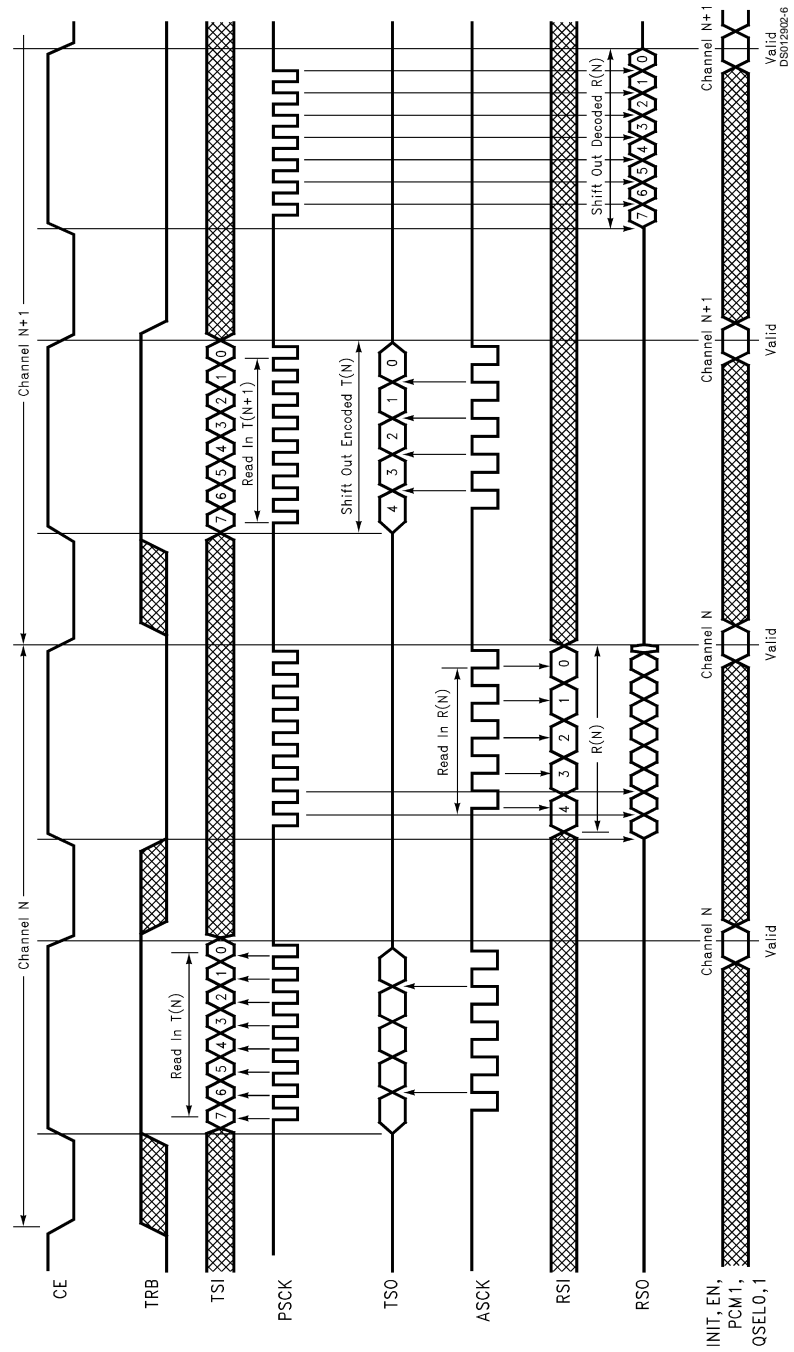
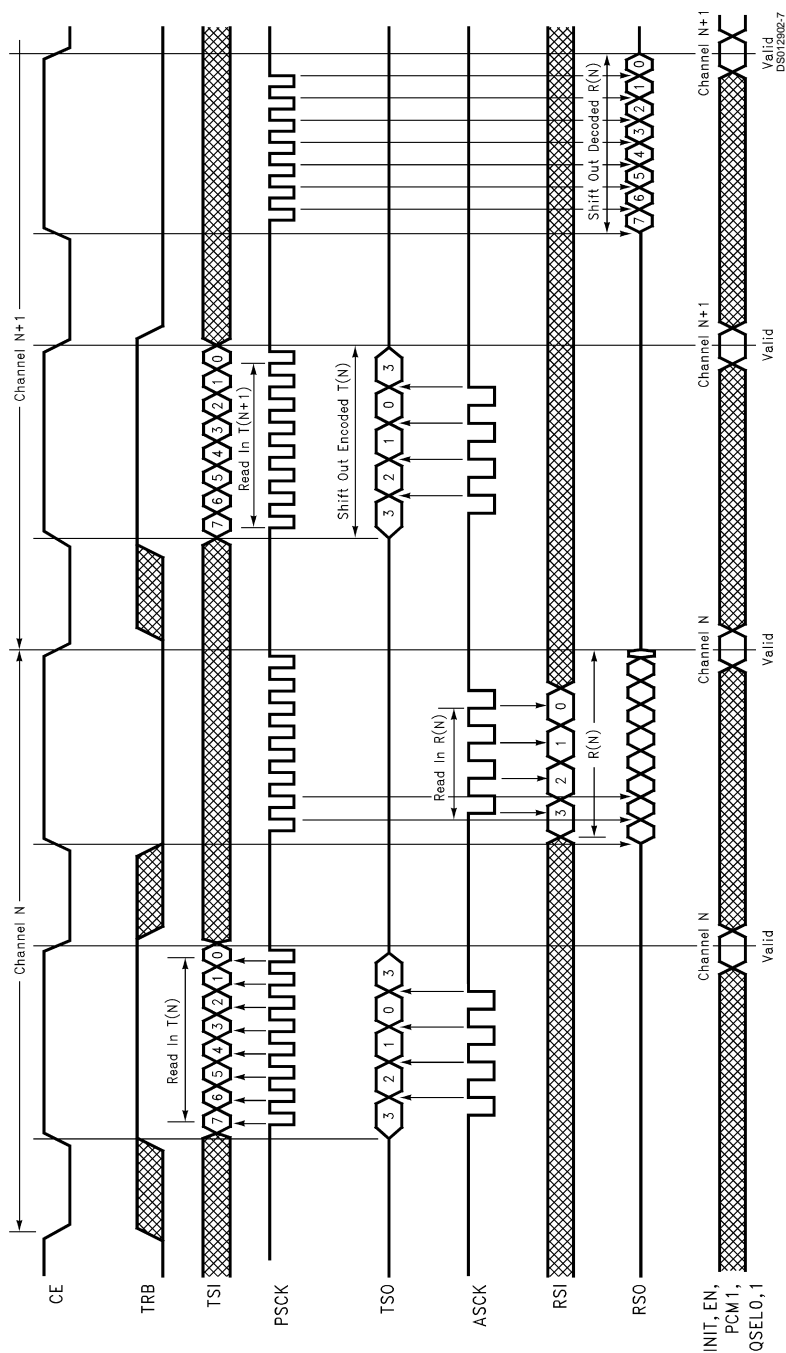

FIGURE 4. Full Duplex Timing Diagram (40 kbps ADPCM mode)
FIGURE 5. Full Duplex Timing Diagram (32 kbps ADPCM mode)
*Figure 4* shows the full duplex timing diagram for the 40 kbps mode. For the 32, 24 and 16 kbps modes only four ASCK low pulses are needed while CE is high (see *Figure 5*).